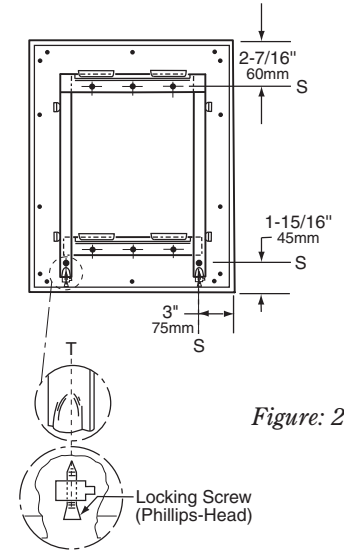

Figure: 2
**Frame** — 18-8 S, type 304, heavy-gauge stainless steel, 3/4" x 3/4" (19 x 19mm) angle with vertical-grain satin finish. One-piece, roll-formed construction forms continuous integral stiffener on all sides. Bevel design on front of angle holds frame tightly against mirror. Corners of mirror frame are heliarc welded, ground and polish smooth. Galvanized steel back is fastened to frame with concealed screws and equipped with integral horizontal hanging brackets near the top and bottom of the mirror for hanging the mirror and to prevent the mirror from pulling away from the wall. Locking devices secure mirror to concealed wall hanger. In Screw Locking Design (see figure 2), concealed Phillips-head locking screws securely fasten mirror to wall hanger.